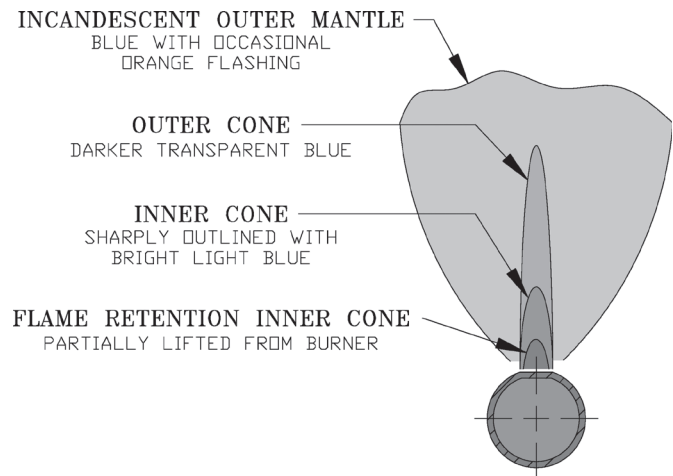

Figure 11: 1 Inch Main Burner Flame
- D. Check Main Burner Flame.** See Figure 11. Flame should have a clearly defined inner cone with no yellow tipping. Orange-yellow streaks caused by dust should not be confused with true yellow tipping.